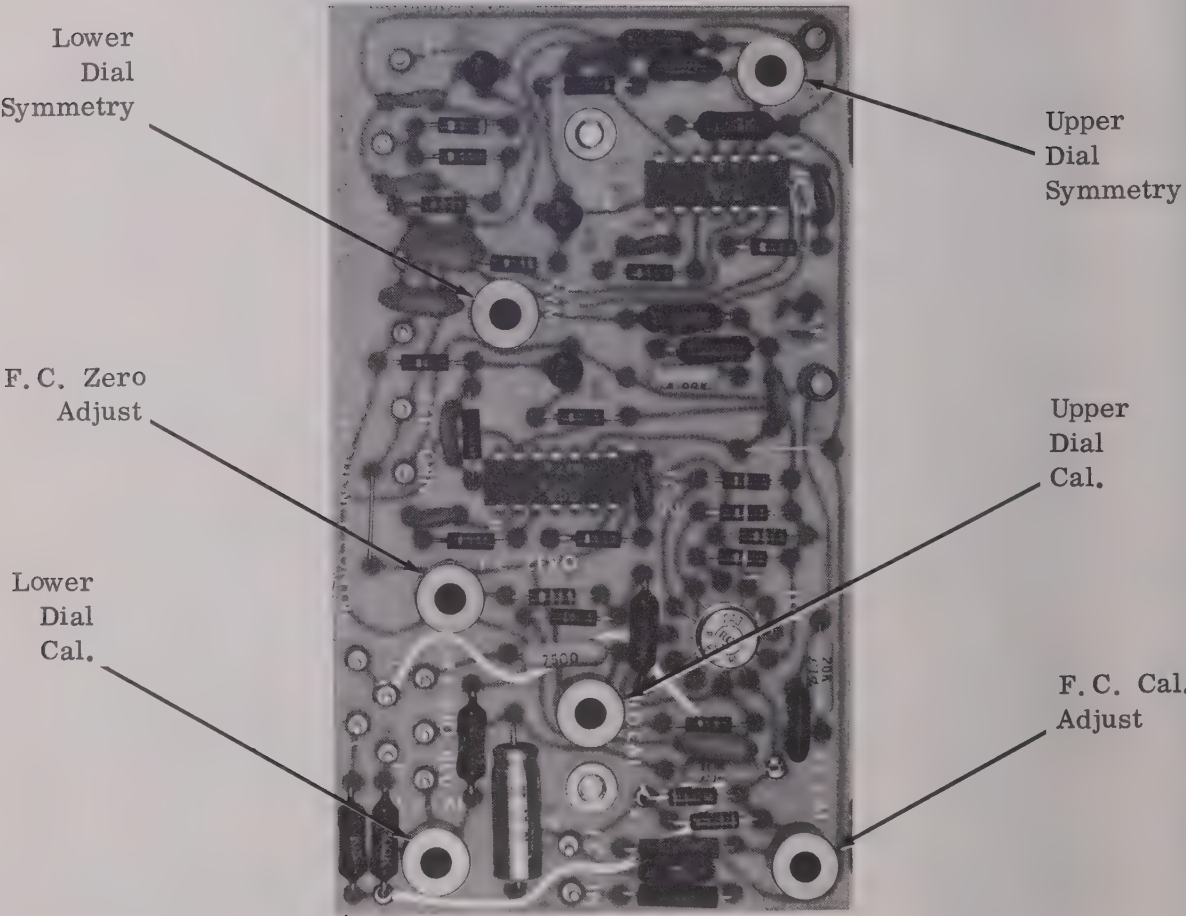

FIGURE 3-3
- 1. Interconnect the equipment as shown in Figure 3-3, observing signal and ground connections carefully.